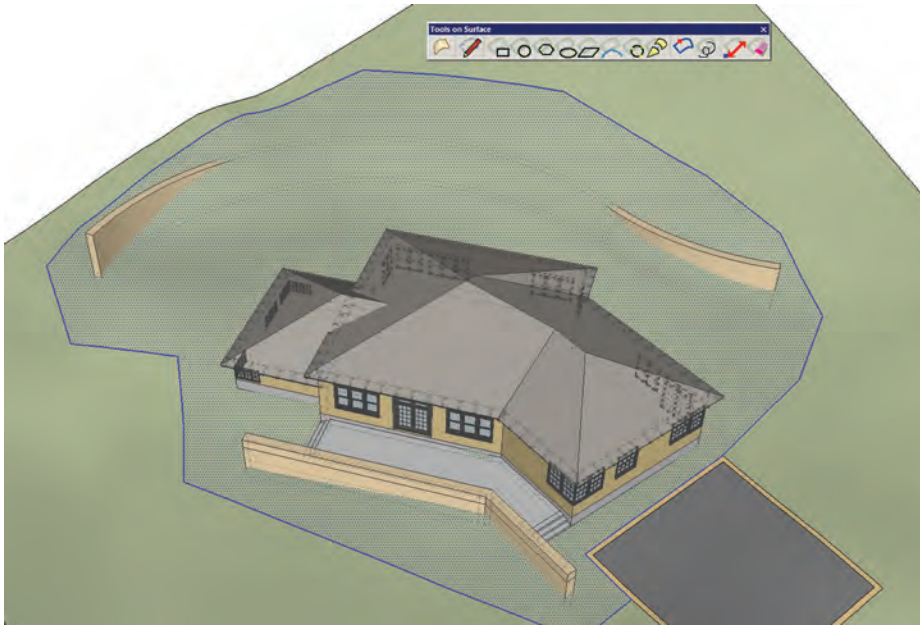

Fig. 15-21: Use Tools on Surface's Line tool to draw a line representing the grading extent.
3. Use the Tools on Surface Line tool to draw a line representing the grading extent. You should be able to select the area once it's complete (Fig. 15-21).